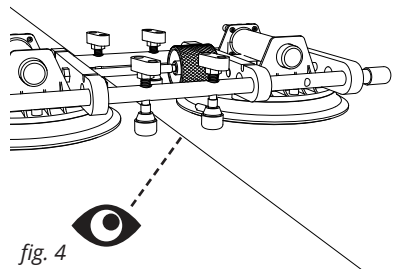

fig. 4
15. Verify seam is level. (see fig. 4)